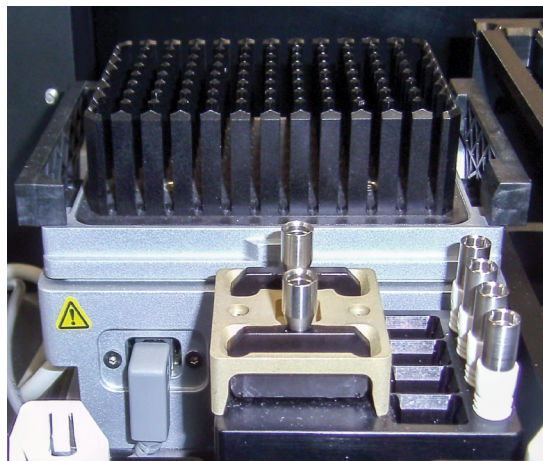

Figure 40. Tool Holder. Replace any tools that have been removed from the pipetting channels in their appropriate location on the left side of the instrument.
7. Once all tips or tools have been released from the pipetting channels, discard any tips or plungers and replace any tools in their appropriate tool holder (Figure 40). When plunger tools are removed from the channels, place them back in the tool holder. When gripper paddles are removed from the channels, replace them in the tool holder so that the pins and magnets are facing toward the center of the tool holder.